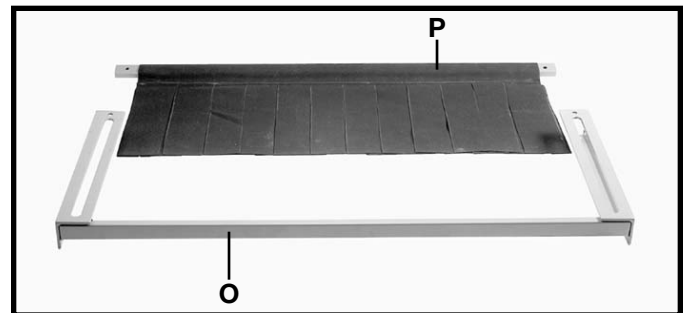

Fig. 17
1. Align the curtain frame (O), and back curtain rod (P), on a flat surface as shown in Fig. 17.